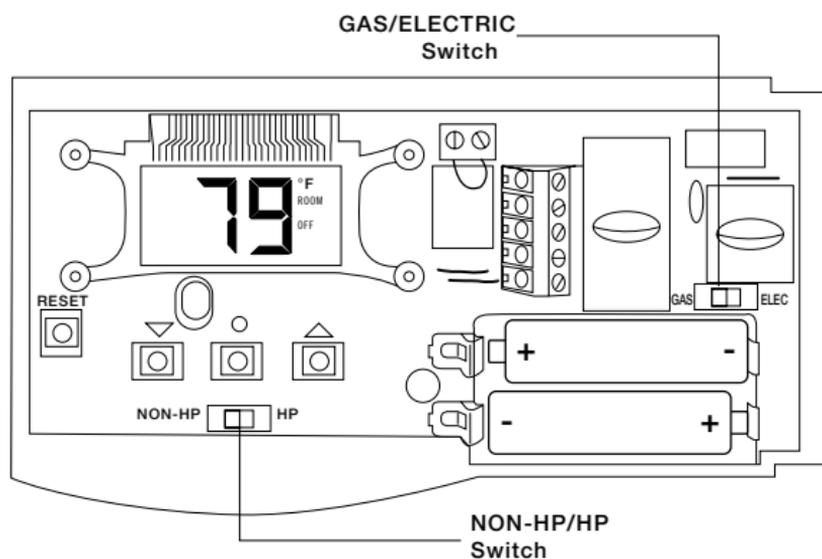

Figure 6
15. Set the GAS/ELEC switch to either GAS for a gas/oil heating system or ELEC for an electric heating system (Figure 6).
16. Set the HP/NON-HP switch to either the HP for heat pump or NON-HP for furnace applications (Figure 6).
17. Install two AA Energizer brand batteries or equivalent into battery compartment as shown (Figure 6).